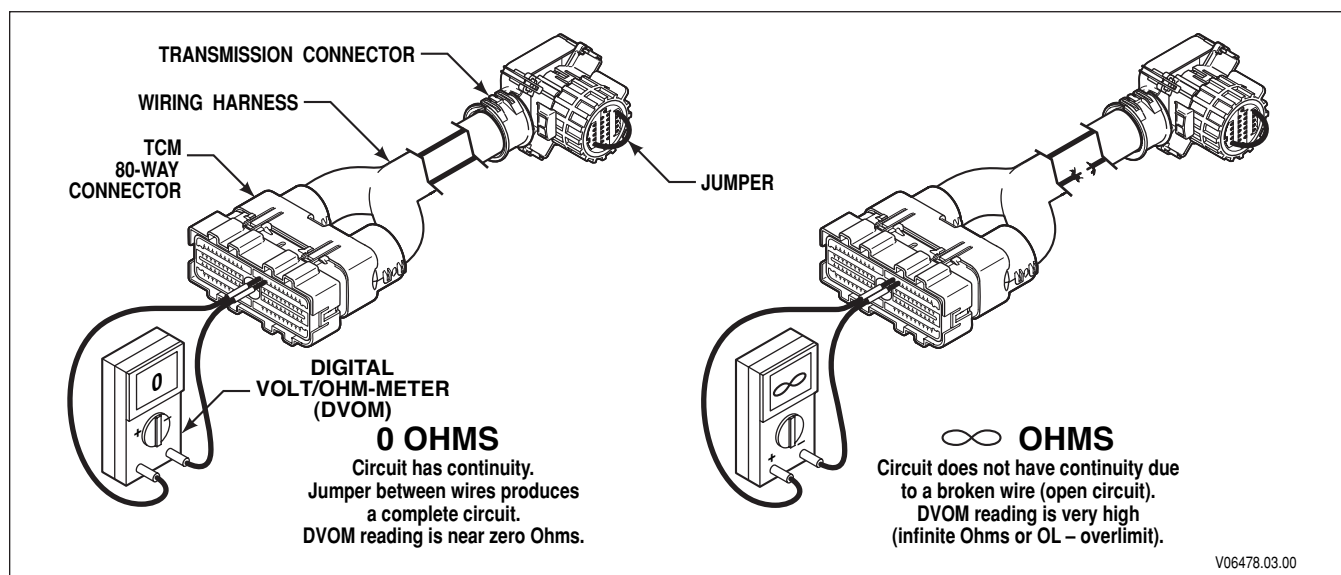

Figure 4-1. Checking Continuity (External Harness)
- a. Check continuity of wires 111 and 155 by performing the following (refer to Figure 4-1):
- (1) Disconnect the 80-way connector from the TCM and disconnect the harness from the transmission main connector. At one end of the harness, using jumper wire kit J 39197-A and connector probes in J 39775-CP, connect pin 14 and 15 to each other, being careful not to distort the terminals. Jumping the wires together creates a circuit between wires 111 and 155.